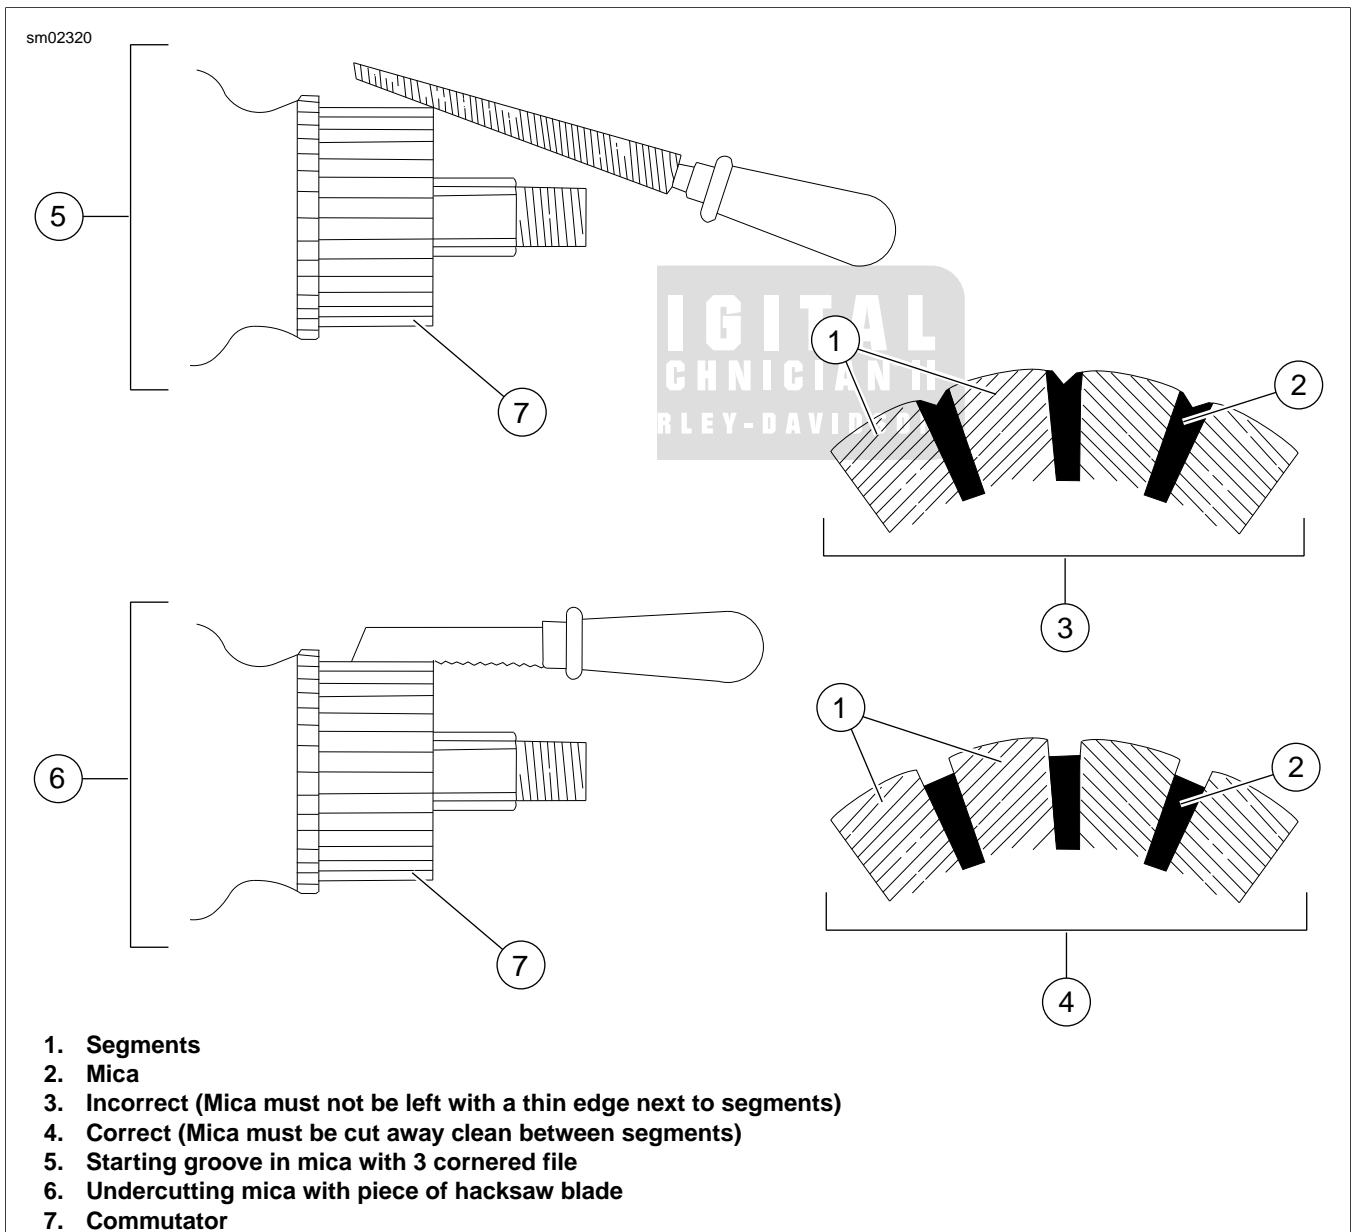

Figure 6-23. Undercutting Mica Separators
- See Figure 6-23. If an undercutting machine is not available, undercutting can be done satisfactorily using a thin hacksaw blade. After undercutting, lightly sand the armature with crocus cloth to remove any burrs.
2. See Figure 6-23. Install two starter mounting bolts and washers. Tighten to 13-20 ft-lbs (17.6-27.1 Nm).